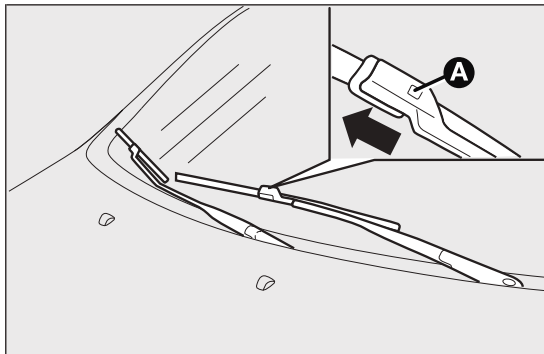

fig. 179
- press tab A fig. 179 of the coupling spring and remove the blade to be replaced from the arm;